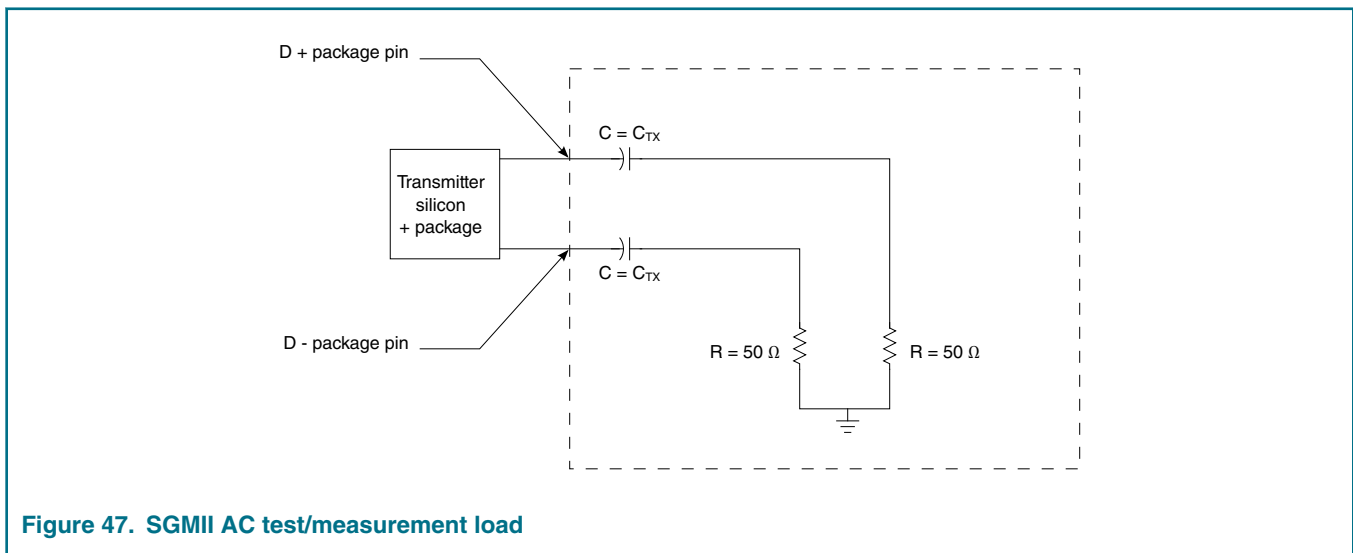
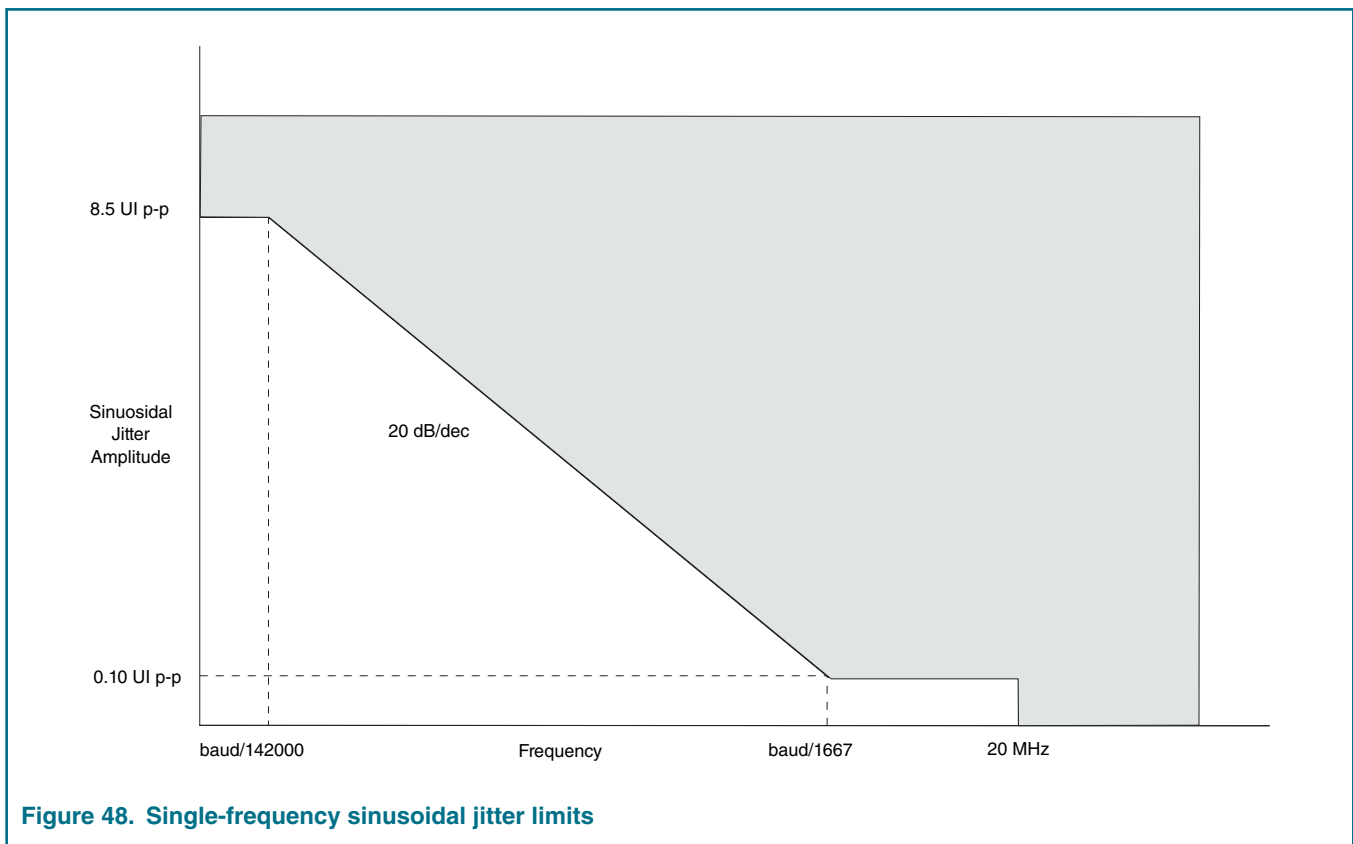

Figure 47. SGMII AC test/measurement load
Figure 48. Single-frequency sinusoidal jitter limits
1. See Figure 48. on page 144. 2. Each UI is 800 ps ± 100 ppm or 320 ps ± 100 ppm. 3. The external AC coupling capacitor is required. It is recommended that it be placed near the device transmitter output. 4. See Figure 47. on page 143.
1. Measured at receiver. 2. Total jitter is composed of three components: deterministic jitter, random jitter, and single frequency sinusoidal jitter. The sinusoidal jitter may have any amplitude and frequency in the unshaded region of the Single-frequency sinusoidal jitter limits figure shown below. The sinusoidal jitter component is included to ensure margin for low frequency jitter, wander, noise, crosstalk and other variable system effects. 3. See Figure 48 . on page 144.